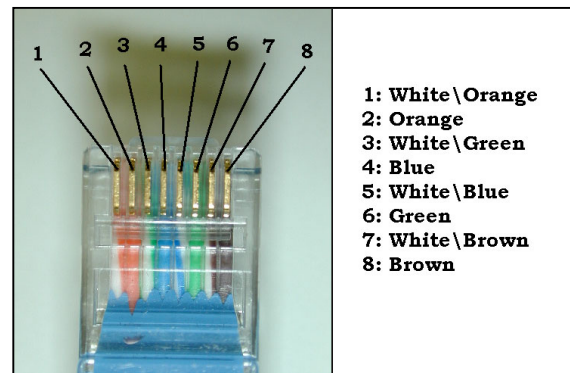

Figure 1: RJ45/CAT5 (EIA/TIA 568B)
Step5: Slide wires into RJ45 plastic connector according to color coding scheme as shown in **Figure 1**.